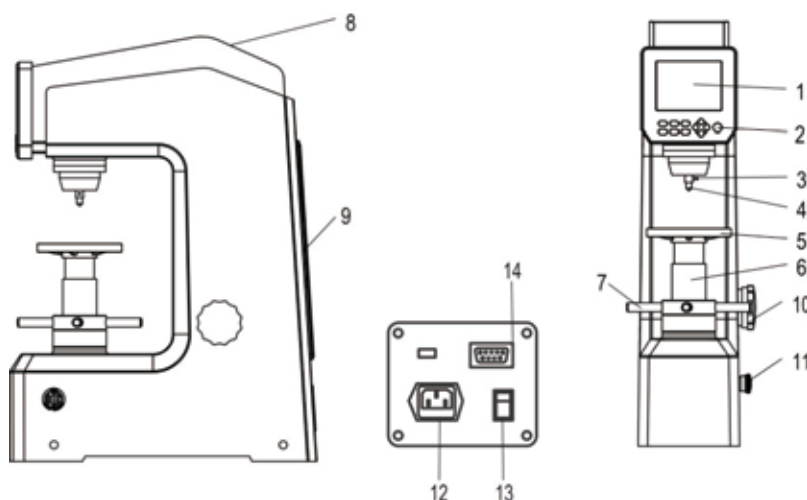

Fig 3-2
- Once fully positioned, open the Upper Cover (8) and the Back Cover (9) found in Figure 3-2.